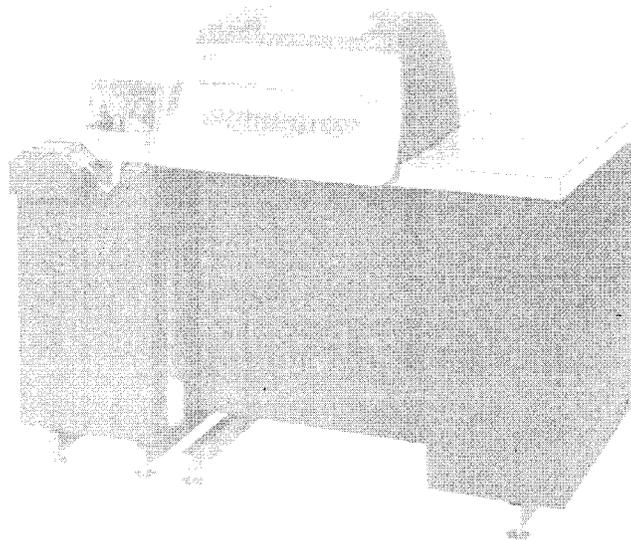

Figure 1 - 37 Automatic Send-Receive
1.03 References in the procedures to left or right, up or down, top or bottom, etc, refer to the unit viewed with the keytops and controls facing the front (Figure 1).